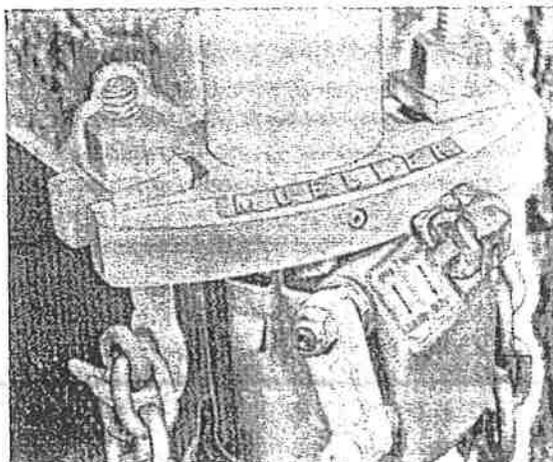

FIGURE 6
1. Open flop valve to its wide open position by pushing lever handle down. If desired, handle screw may be engaged into socket on side of body to retain flop valve in open position during this operation. FIGURE 6.